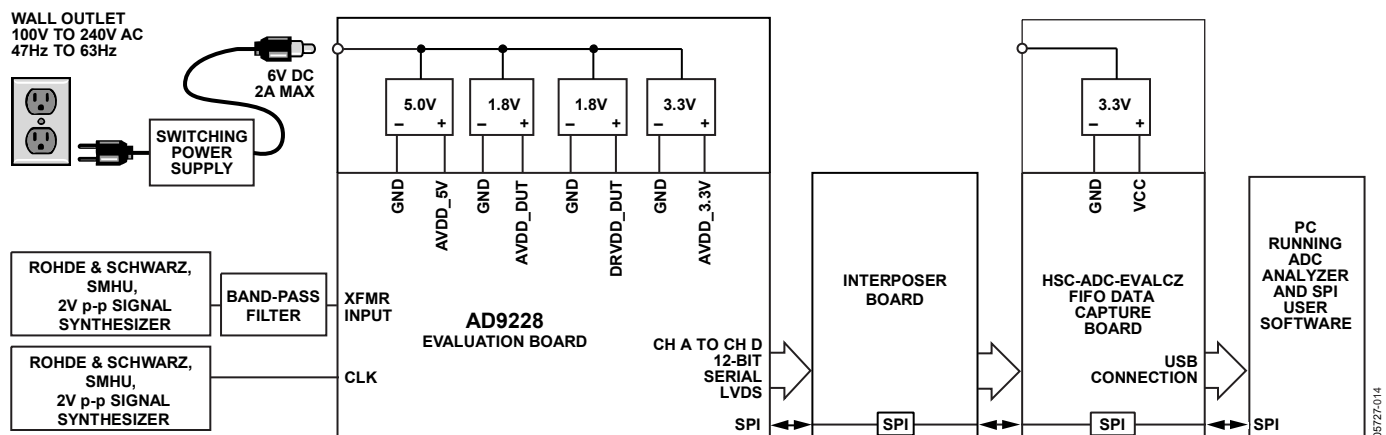
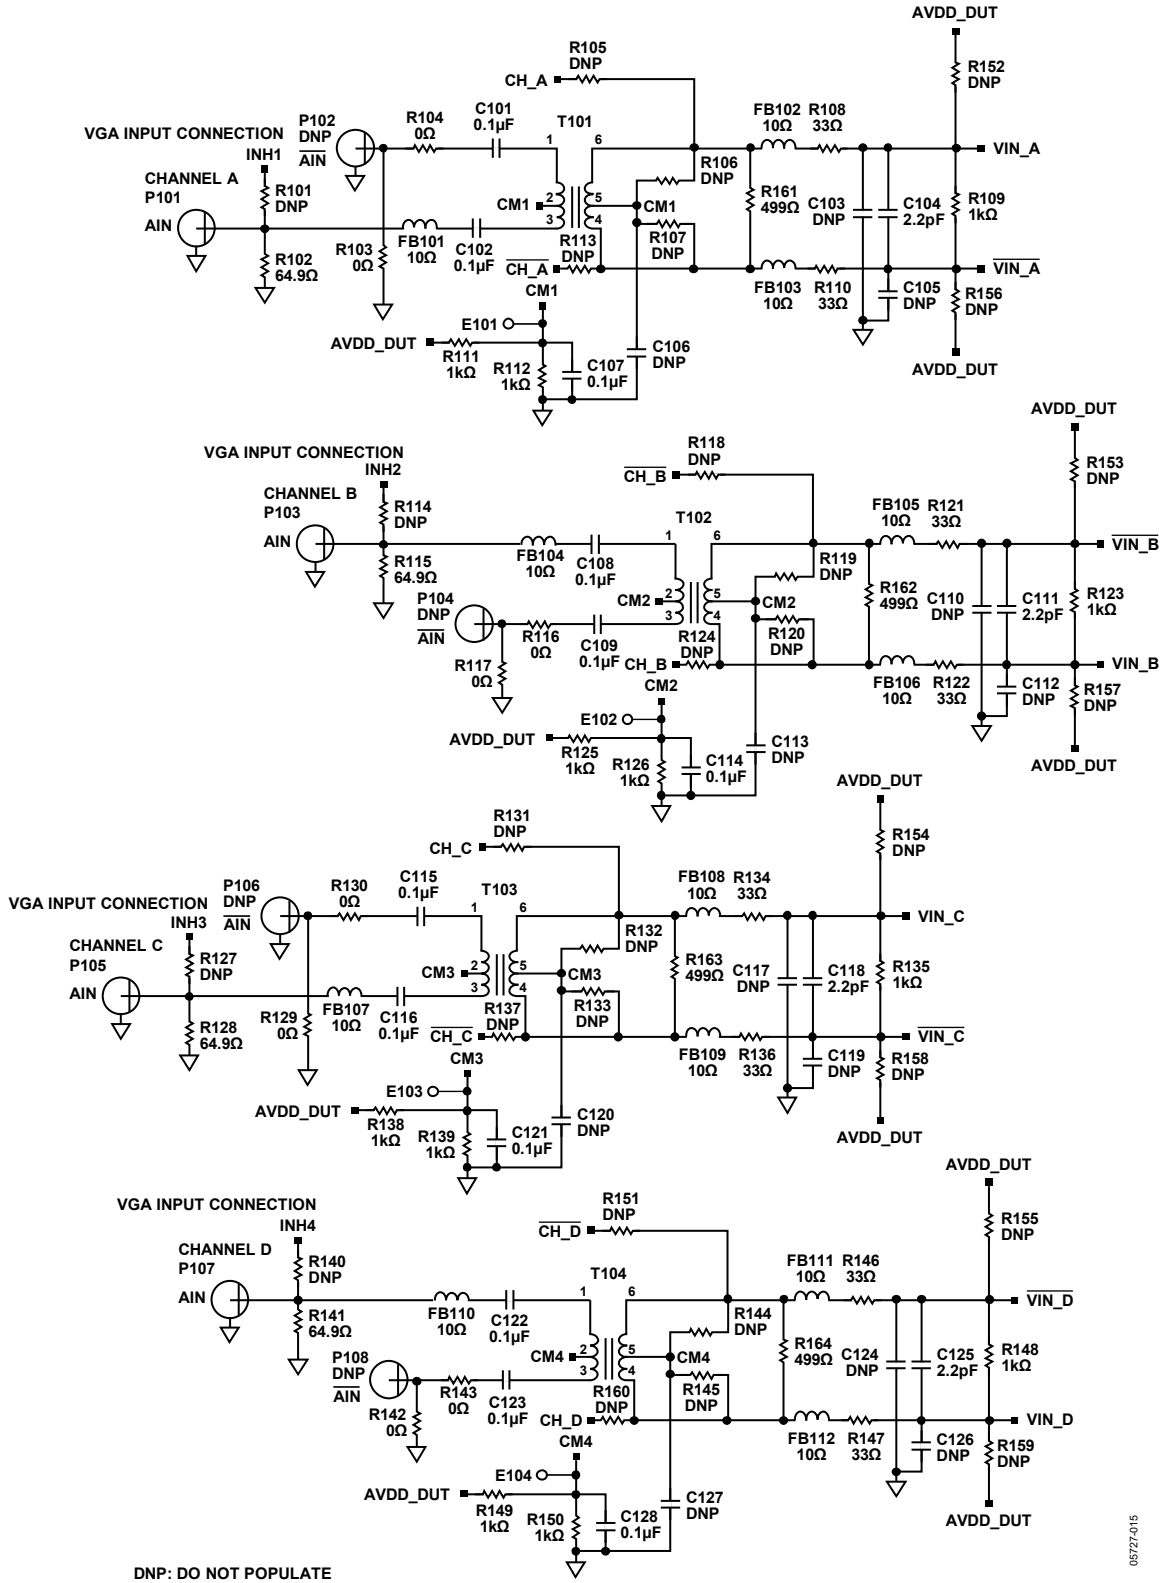
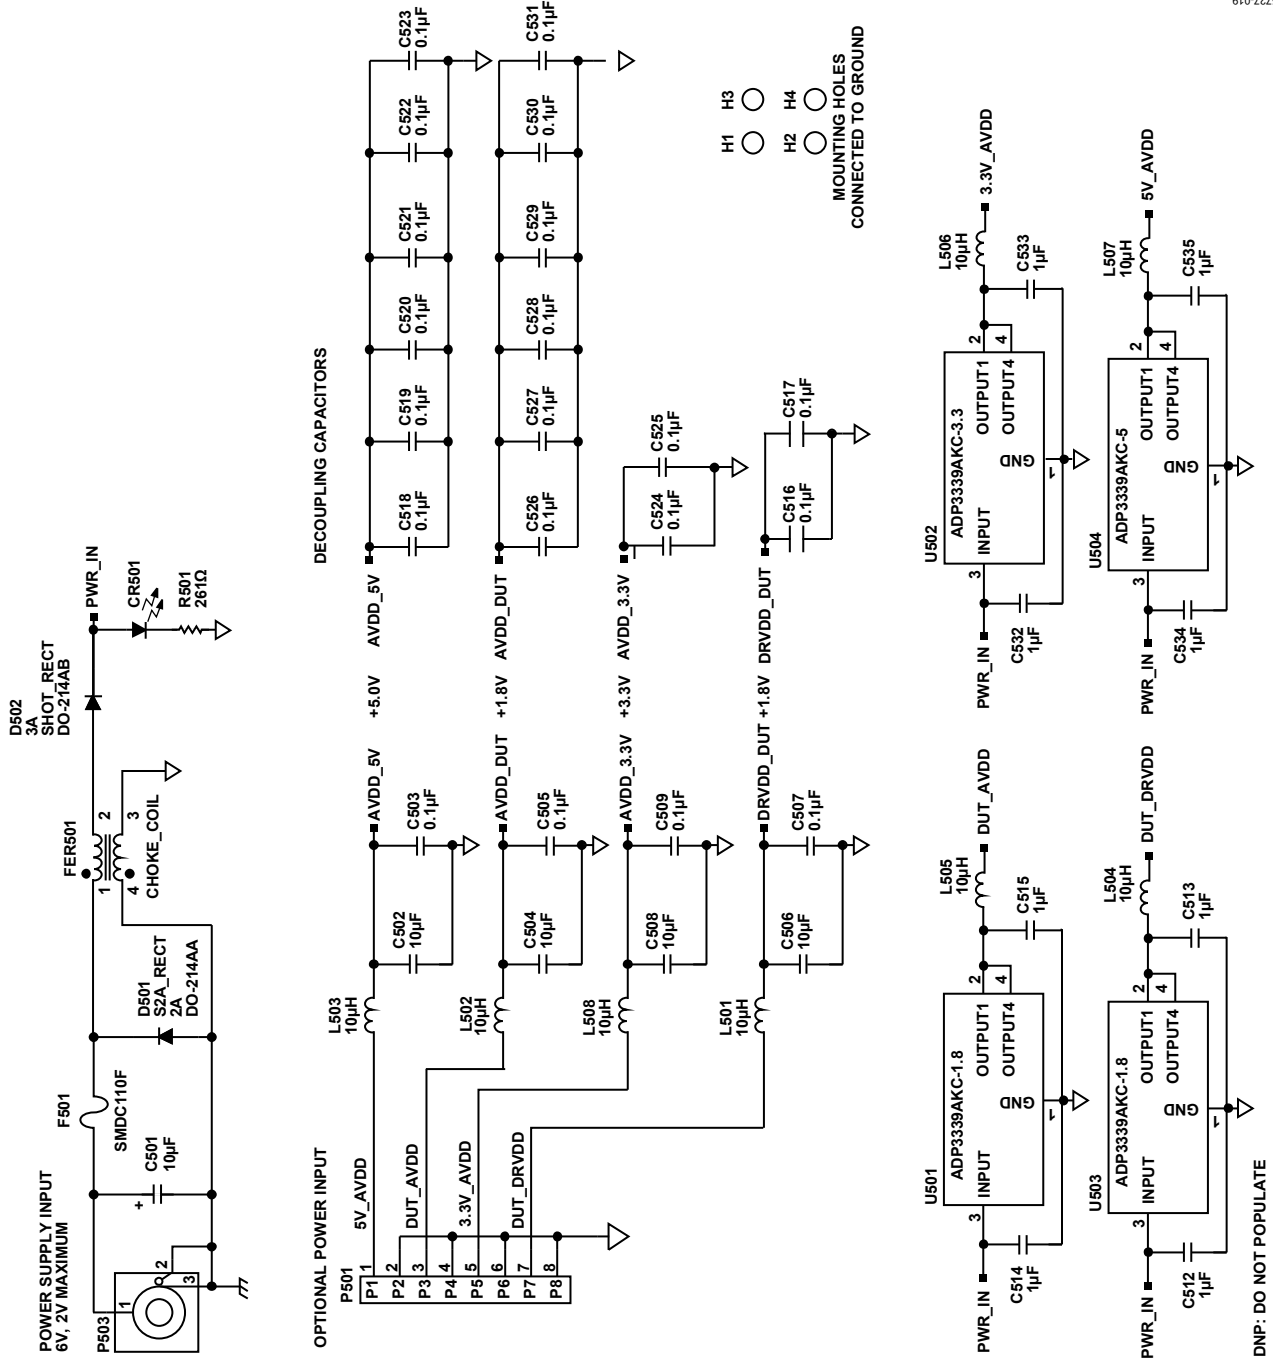

Figure 71. Evaluation Board Connection
Figure 73. Evaluation Board Schematic, DUT Analog Inputs
Figure 77. Evaluation Board Schematic, Power Supply Inputs
The AD9228 evaluation board provides all of the support circuitry required to operate the ADC in its various modes and configurations. The converter can be driven differentially using a transformer (default) or an AD8332 driver. The ADC can also be driven in a single-ended fashion. Separate power pins are provided to isolate the DUT from the drive circuitry of the AD8332. Each input configuration can be selected by changing the connection of various jumpers (see Figure 73 to Figure 77). Figure 71 shows the typical bench characterization setup used to evaluate the ac performance of the AD9228. It is critical that the signal sources used for the analog input and clock have very low phase noise (<1 ps rms jitter) to realize the optimum performance of the converter. Proper filtering of the analog input signal to remove harmonics and lower the integrated or broadband noise at the input is also necessary to achieve the specified noise performance.
See Figure 73 to Figure 81 for the complete schematics and layout diagrams demonstrating the routing and grounding techniques that must be applied at the system level.
- **D + x, D - x:** If an alternative data capture method to the setup shown in Figure 73 is used, optional receiver terminations, R206 to R211, can be installed next to the high speed backplane connector.